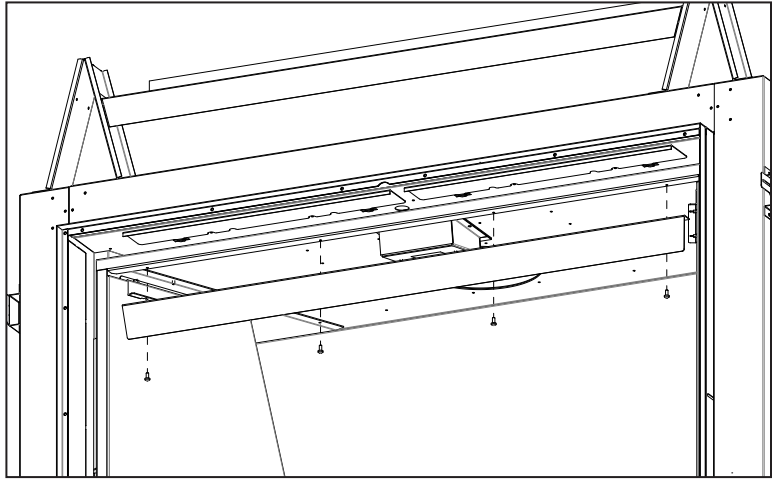

Figure 77: Light Deflector Removal
Step 2. Remove light deflector by removing the four (4) retaining T-20 screws (see Figure 77).